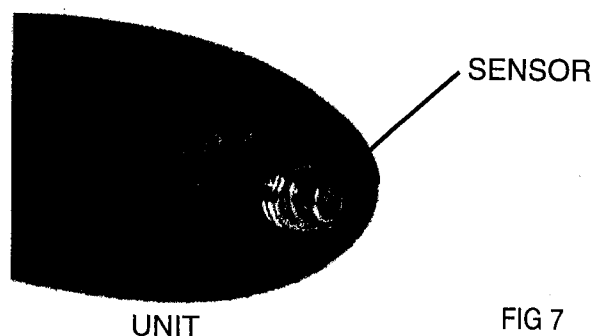

FIG 7
1. Remove the flexible probe by firmly grasping it and rotating counter-clockwise. This will expose the sensor in the end of the unit (see Fig 7). Verify that the sensor is installed.